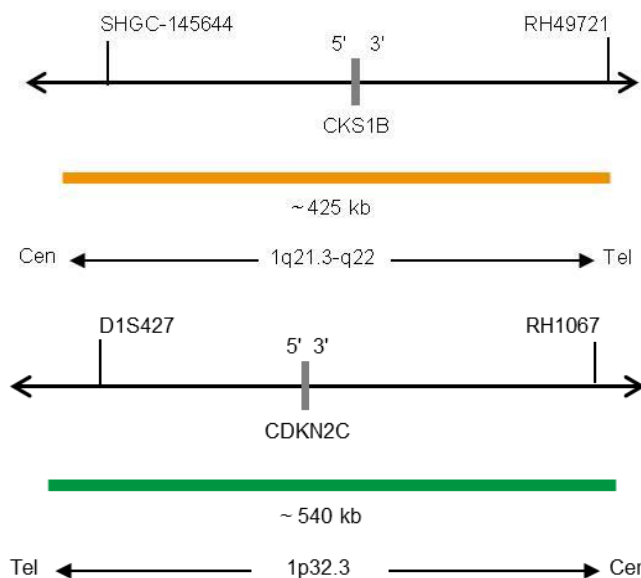

Fig. 1: Top: SPEC CKS1B Probe map; Bottom: SPEC CDKN2C Probe map (not to scale)
- ZyOrange (excitation 547 nm/emission at 572 nm) labeled polynucleotides (~4.5 ng/μl), which target sequences mapping in 1q21.3-q22\* (chr1:154,722,168-155,144,639) harboring the CKS1B gene (see Fig. 1).
- ZyGreen (excitation 503 nm/emission 528 nm) labeled polynucleotides (~10.0 ng/μl), which target sequences mapping in 1p32.3\* (chr1:51,196,272-51,737,475) harboring the CDKN2C gene (see Fig. 1).